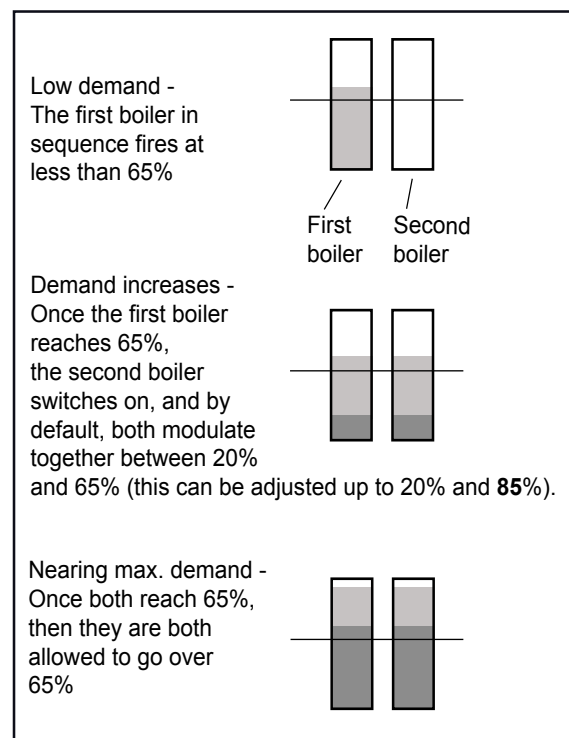

Figure 39. Lead Lag Operation, 2 boilers.
- If the heating demand increases so that the firing rate of that first boiler rises to your boiler configurations Base Load Value (see **Figure 39** or **Figure 41**), the next boiler in the sequence will start up and begin firing at 20 to 35% fan speed (depending on your configuration). After this, the entire configuration of boilers will modulate up or down together, in reaction to the changes in demand.